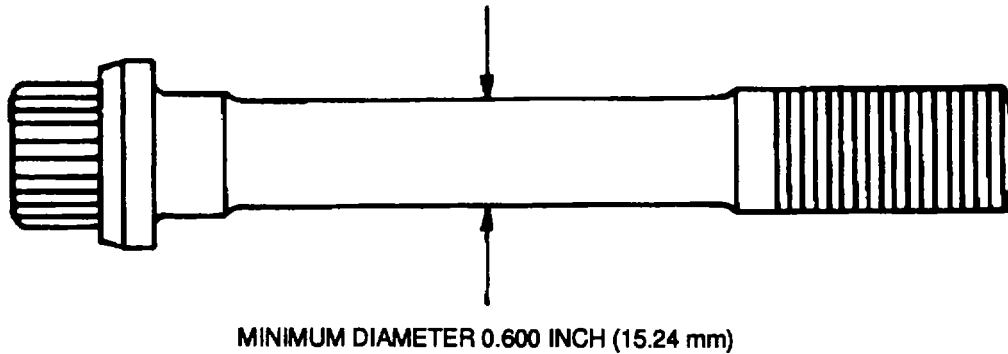

Figure 9-29. Inspection of Connecting Rod Bolt
- (b) If the connecting rod bolts (1) have been tightened excessively, they may be permanently stretched in the area indicated in Figure 9-29. Replace any bolt if the smallest diameter is less than 0.600 inch (15.24 mm).